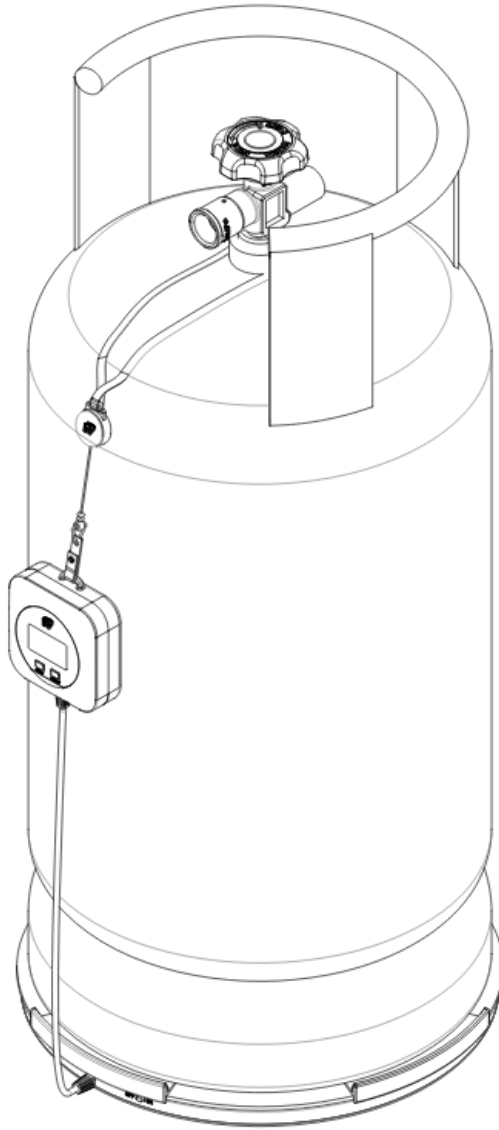

图 1 Figure 1
3. 使用可伸缩挂绳一端连接显示终端，一端套入气瓶阀门处，如图 1 所示。为了防止出现称重误差变大，请不要用力将液化气钢瓶砸入底座中。
Use a retractable hanging rope, one end is connected to the display terminal, and the other end is covered into the valve of the cylinder, as shown in Figure 1. In order to prevent weighing error, please do not force to smash the LPG cylinder into the scale.